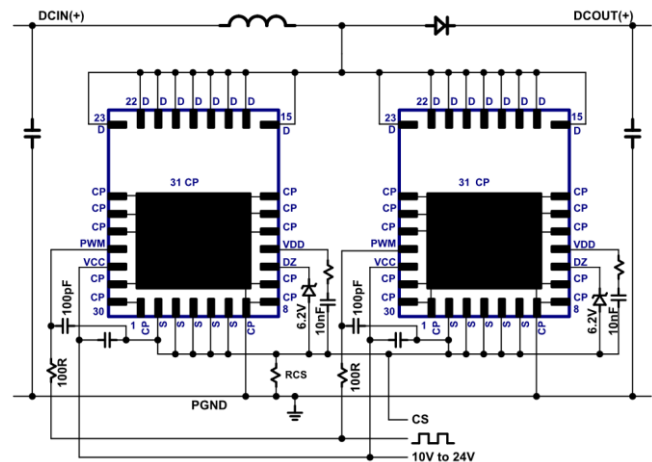

Fig. 25. Boost schematic using two parallel ICs
For some applications it is desirable to parallel ICs in order to reduce conduction losses and temperatures. Two GaNFast power ICs can be connected in parallel in a PFC boost application working in boundary-conduction mode (BCM) only. The parallel configuration for two GaNFast power ICs is shown in Fig. 25. The paired pins that are connected together include the drain pins (D), the source pins (S), the  $V_{CC}$  pins, the PWM pins, and the  $D_Z$ . A single  $D_Z$  diode can be shared by both ICs. The  $V_{DD}$  pins are not connected together and require separate  $V_{DD}$  supply capacitors ( $C_{VDD1}$ ,  $C_{VDD2}$ ) and separate turn-on current set resistors ( $R_{DD1}$ ,  $R_{DD2}$ ). Each IC should have its own local  $V_{CC}$  supply filter capacitor ( $C_{VCC1}$ ,  $C_{VCC2}$ ). The PWM pins can have a single filter resistor ( $R_{PWM}$ ) but separate filter capacitors ( $C_{PWM1}$ ,  $C_{PWM2}$ ) should be placed at the PWM pin of each IC. When designing the PCB layout for the two paralleled ICs, the drain and source connections should be made as symmetrical as possible two avoid any parasitic inductance or capacitance mismatch.